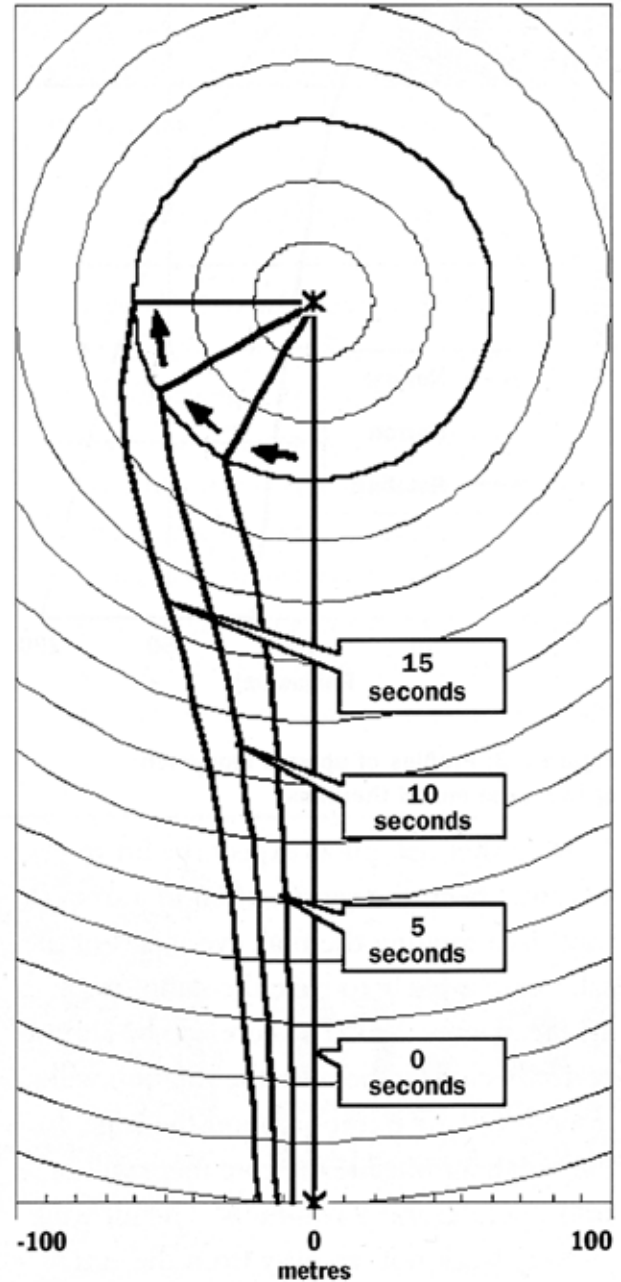

Fig 2.2. Movement of the air around a rotating thermal (as a Rankine vortex)
If a thermal rotates, it is like a very weak tornado. Experts have found the pattern of winds in a tornado⁴. I suggest that this pattern also occurs in a rotating thermal, only the winds are not so strong. In Figure 2.2, I have drawn lines to show how much the wind in the rotating thermal has moved the air after certain times. Near the axis the air moves only slowly. Out to the edge of the core it moves faster and faster. Outside the core the air moves slower and slower. Because the air outside the core is moving slower and also has further to go around the circle, it gets left far behind the air in the core.
4. The pattern of horizontal winds in a tornado is like a Rankine vortex. The Encyclopaedia Britannica reports that, in 1957, meteorologists observed wind speeds of one tornado near Dallas in detail. The rotational speed of the air was very low near the centre, and increased in proportion to the radius, until it was 67m/sec at 60m, then decreased in inverse proportion to the radius, falling below 10m/sec at 400m from the centre. This pattern of linear increase in rotational velocity with radius, followed by decrease inversely with radius (Figure 2.2) is called a Rankine vortex. Others have seen the same pattern in dust devil rotation. Research that is more recent uses other vortex models, but the Rankine vortex model will do.